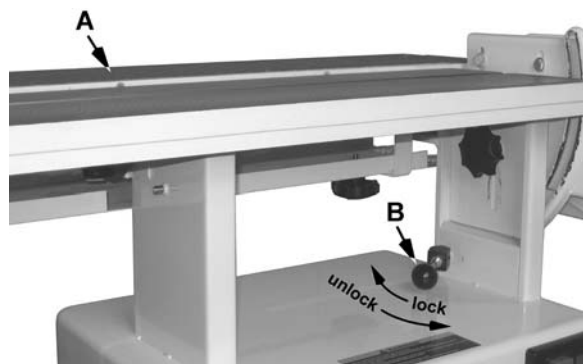

Figure 10
Referring to Figure 10:
2. Loosen (unlock) the *handle* (B, Fig. 10) and place the platen in the horizontal position as shown in (A, Fig. 10). Do not lock.